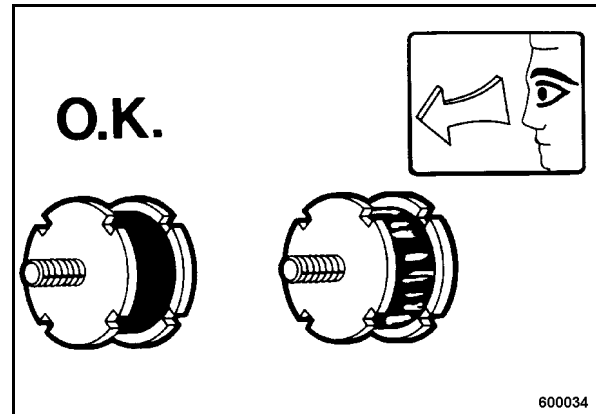

Fig. 58
- Check all rubber buffers (Fig. 58) for tight fit, cracks and damage and replace immediately if damaged.